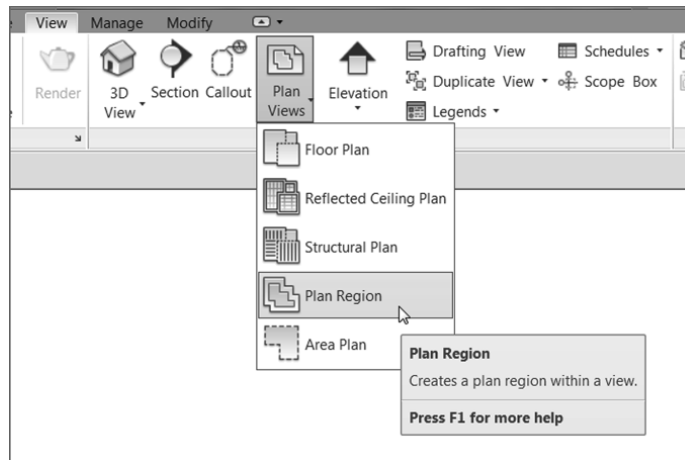

FIGURE 7.34: Using a plan region enables you to alter the view range in a specified area of a plan.
2. On the View tab, choose Plan Views > Plan Region, as shown in Figure 7.34.